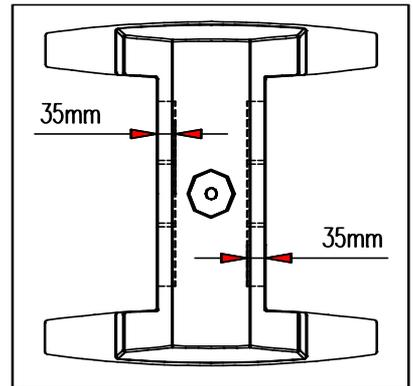

Fig.6
(indicated in Fig. 6)
3.2.2 Insert the column into the Balance Block vertically (Notice that there are two Position Hole of 90° at the bottom of the column), and then rotate the column to the needed direction. Then insert the Hexagon screw together with the spring washer and the flat washer from the beneath into the column (indicated in Fig. 6). Note insert the spring washer first, then the flat washer.